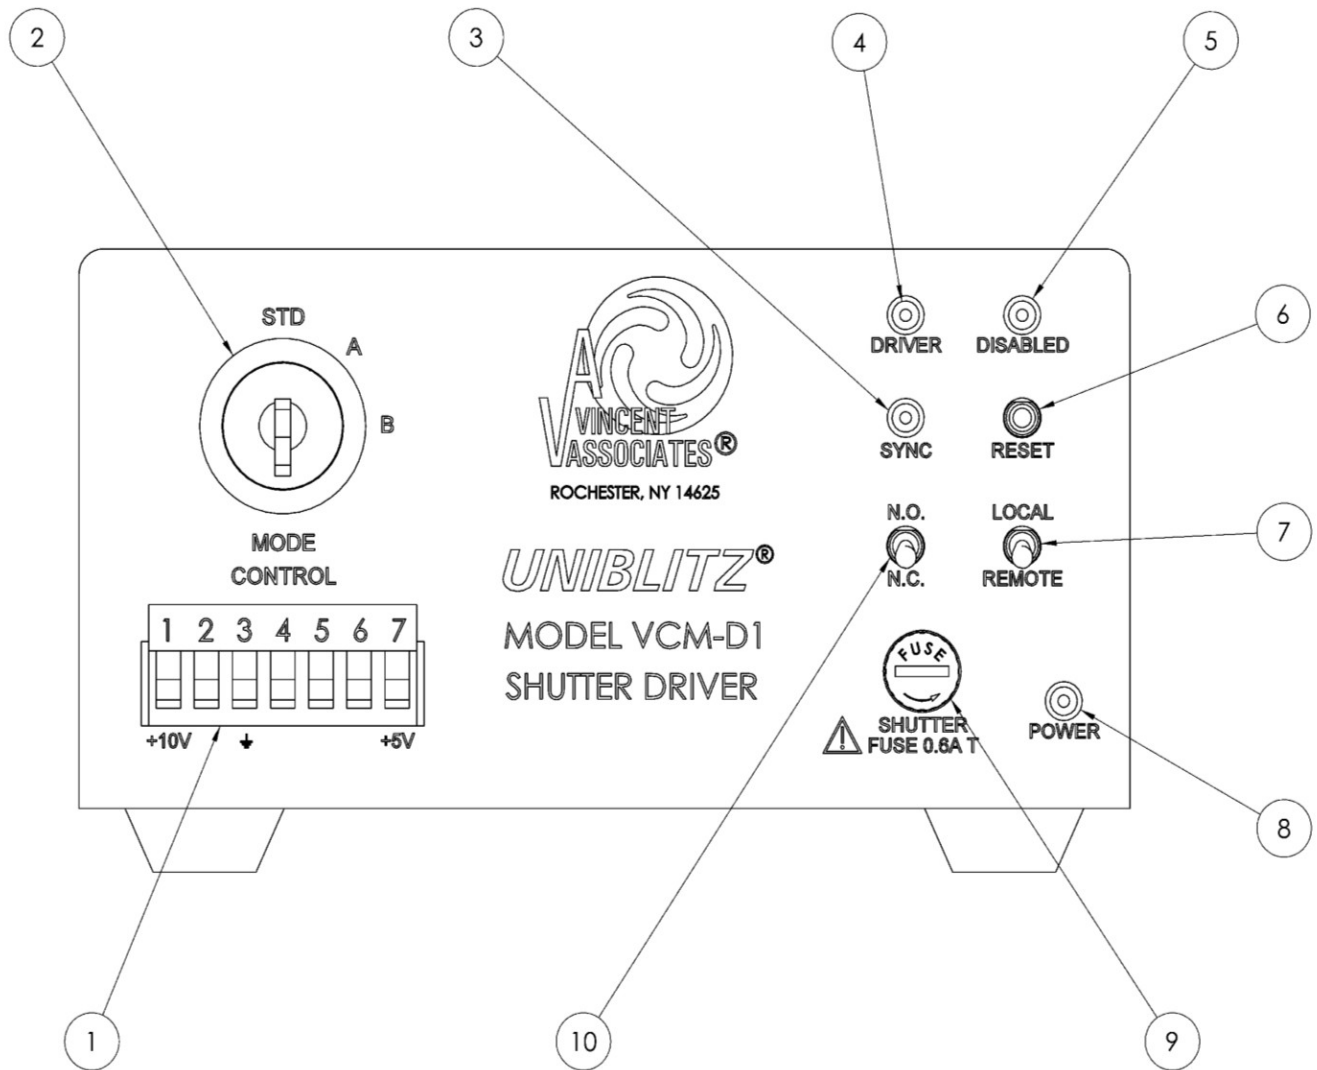

Figure 2: VCM-D1 Front Panel Operator Controls
1. Please refer to Figures 2 for the **VCM-D1** front panel layout.
Please refer to Figure 2.